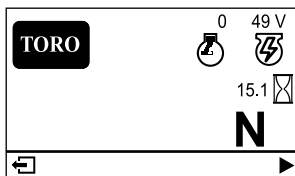

Figure 16
- **Main information screen (Figure 16):** shows current machine information while the key is in the ON position.